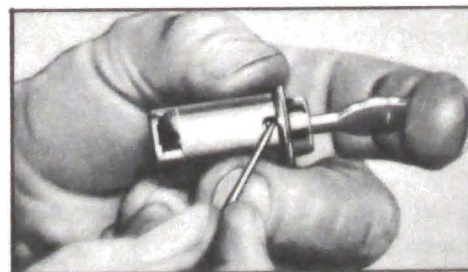

Figure 13-12—Removing Lock Cylinder
2. Insert a pointed tool into opening in lock barrel and push down and out on retaining tumbler (fig. 13-12) then remove cylinder.